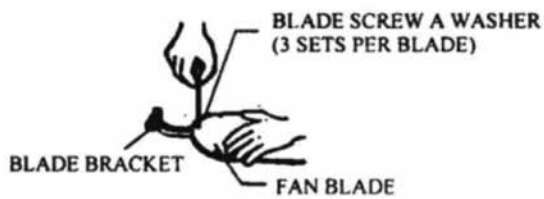

FIG.6
1. Mount the brackets to the fan blades using the blade screws and washers provided. See Fig. 6. Make sure all blade screws are tightened securely.